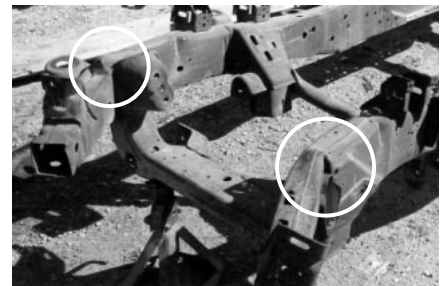

Figure 5—These folds in the frame rail are classified as kinks and cannot be repaired.
- A **kink** is a sharp bend of more than 90° that can't be straightened without permanent deformation or cracking (see Figure 5).